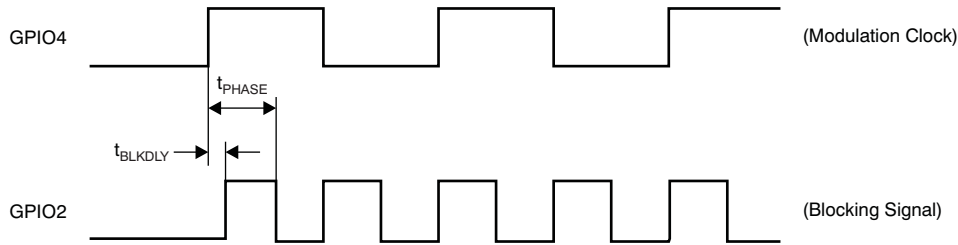

Figure 75. Internal Respiration (RESP_CTRL = 11b) Timing Diagram
In this mode GPIO2, GPIO3, and GPIO4 are automatically configured as inputs. GPIO2, GPIO3, and GPIO4 cannot be used for other purposes. The signals must be provided as described in Figure 75. The internal master clock is not recommended in this mode.
Table 20. Timing Characteristics for Figure 75 (1)